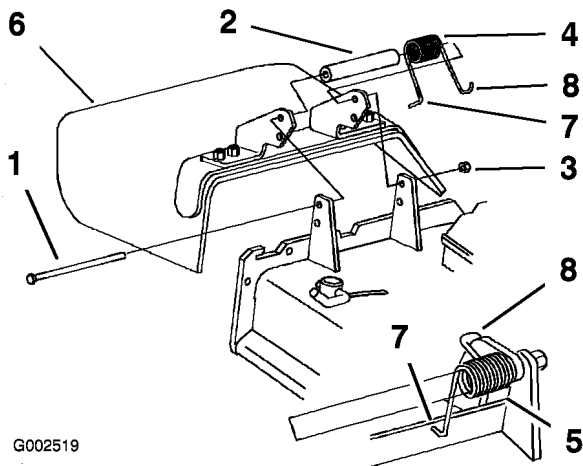

Figure 72
1. Remove the locknut, bolt, spring and spacer holding the deflector to the pivot brackets (Figure 72).
Note: Make sure the L end of the spring is installed behind the deck edge before installing the bolt as shown in Figure 72
5. Place the **J** hook end of the spring around the grass deflector (Figure 72).